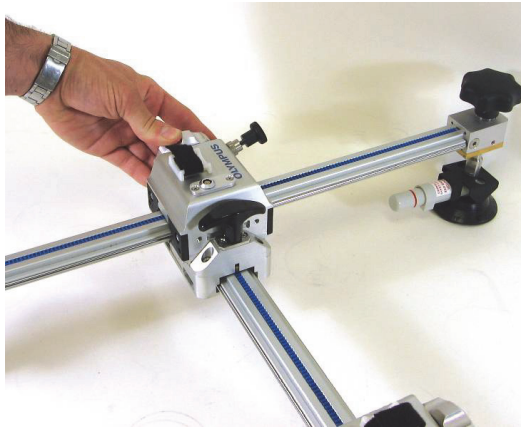

Figure 3-5 Turning the increment knob
9. With the increment knob in the 4 mm increment position, turn the knob the desired number of increments (see Figure 3-5 on page 62).